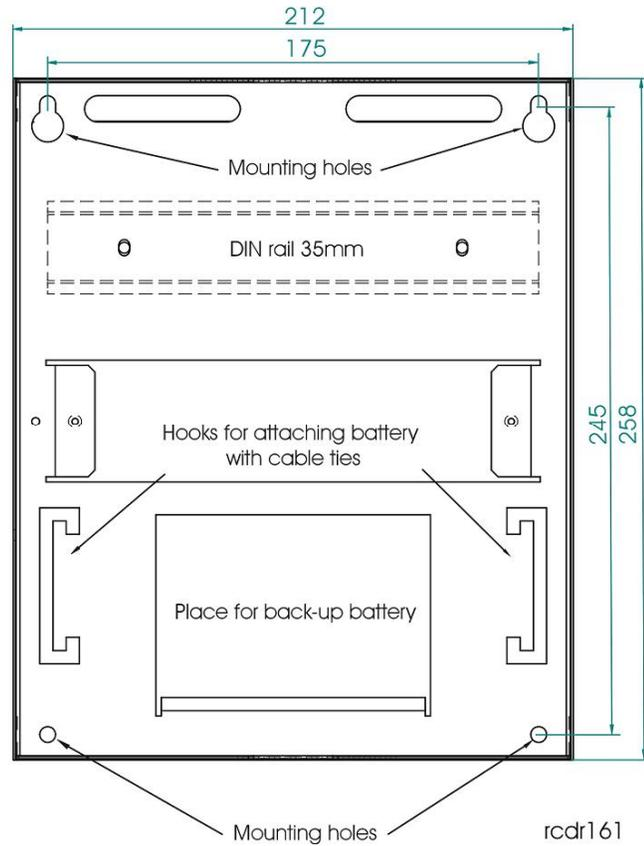

Fig. 1 Schematic view of internal space of enclosure with key points marked
- Put back-up battery in its place (see Fig.1) and then attach it to the enclosure with enclosed cable ties, using special hooks of the enclosure. Both cable ties should be connected in a loop maintaining the battery in stable position (see Fig.2). Check if the battery is firmly installed.